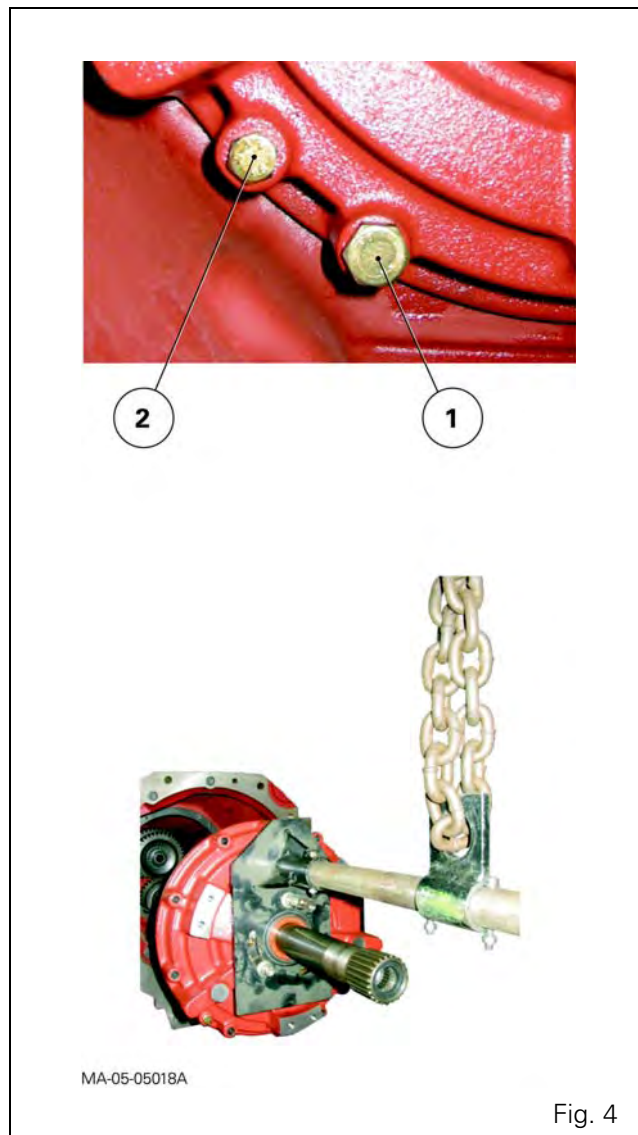

Fig. 4
8. Take out the M10 screws (1) (Fig. 4).
- IMPORTANT:** Do not take out the M8 screws (2) (Fig. 4) to avoid removing certain parts from the input unit.
9. Remove the gearbox input unit using tool ref. 3376883M1 (Fig. 4) and the handling bar (see § C).